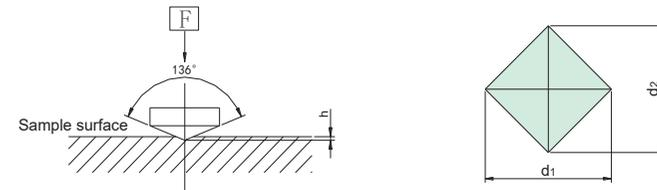

Fig.1.1 Vickers Test Principle
The Vickers hardness test involves using a 136 ° rhombic diamond indenter to press the surface of the tested object with a specified test force (F). After maintaining the test force for a specified time, the test force is removed, and the indentation diagonal (d) on the surface of the test piece is measured using a micrometer eyepiece. The average pressure (N/mm²) borne by the conical surface area of the indentation is calculated, which is the Vickers hardness value. (See Figure 1.1 for details).